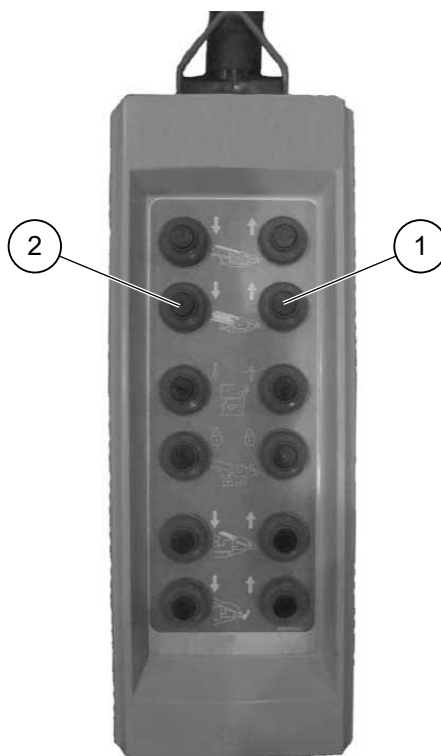

Figure 21. Plant setup device
6. Connect the plant setup device and lower the screen using button (2) in Figure 21. Plant setup device.